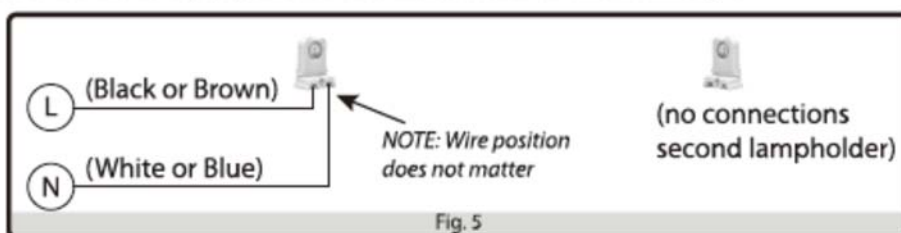

Fig. 5
3. Connect the input supply lines to the lampholder as shown in Fig. 5.